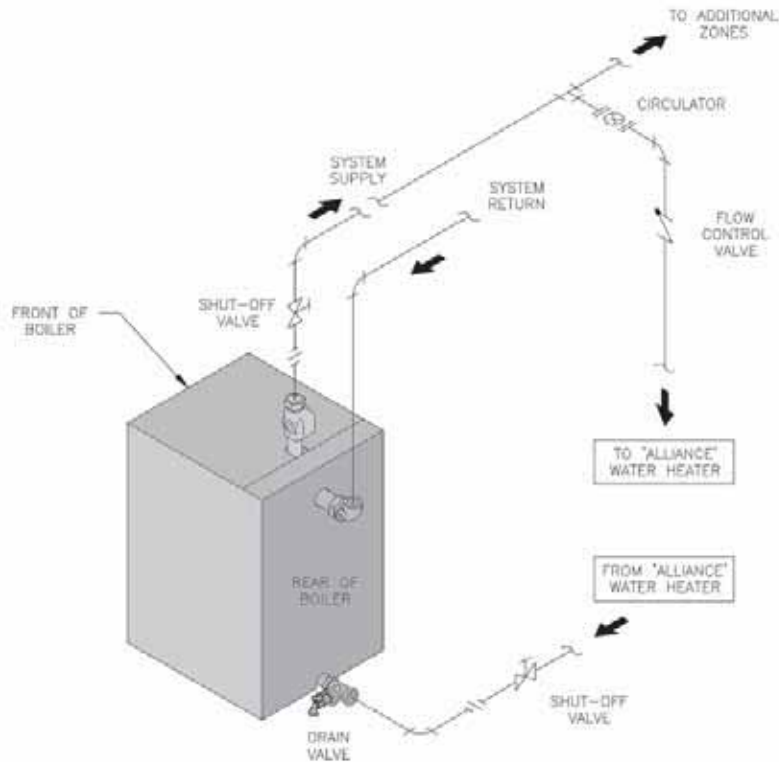

Figure 20A: Alliance SL™ Water Heater Piping w/Supply Side Circulator on Circulator Zoned Heating System
A. CONNECT an Alliance SL™ WATER HEATER PIPING as shown in Figures 20A and 20B.